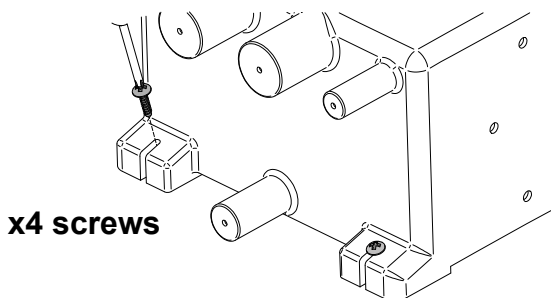
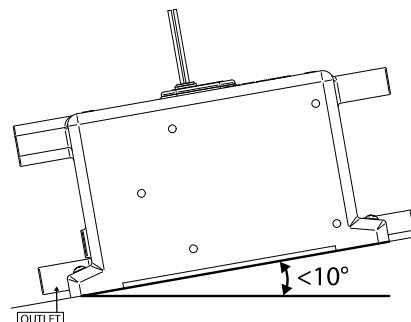

Figure 5 Securing The Tank
Figure 6 Maximum Possible Angle of Installation
| Fig. 5      | Securing the Tank   |
| Fig. 6      | Maximum Possible Angle of Installation  |
**Step 2:** The tank **must be** secured using 4 appropriate screws, through the feet of the tank as shown in Figure 5. **NOTE:** The angle of the tank **must not** exceed 10° (Figure 6). **NOTE: Do not screw directly to the hull – MUST be mounted on a bulkhead or an additional board.**